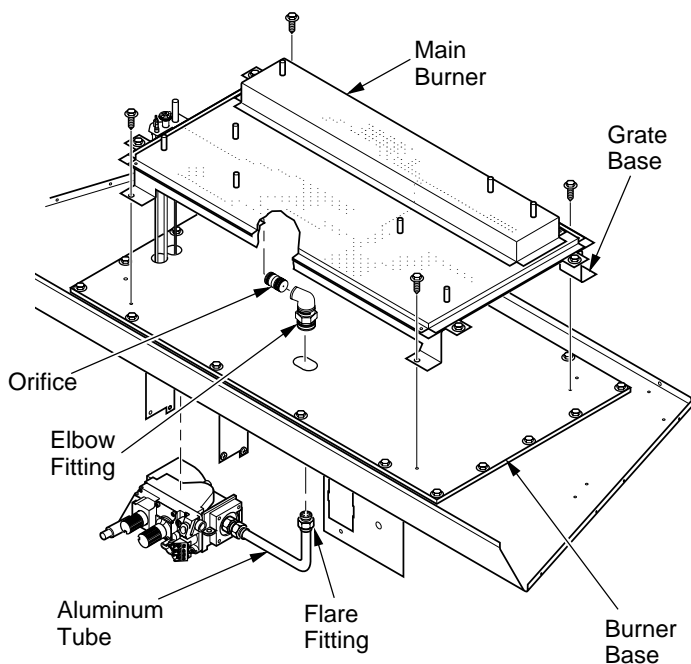

Figure 3 - Removing Orifice for Conversion (Valve Shown Removed from Base for Clarity)
1. Inside the control compartment under the firebox floor, locate the aluminum tube with flare fitting and elbow fitting. Loosen flare fitting and disconnect aluminum tube from elbow fitting. Use a 3/4" open end wrench (see Figure 3).
3. Remove grate base from burner base by removing 4 screws (see Figure 3).